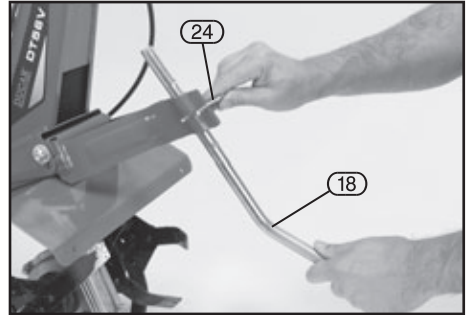

FIG.5
8.3 ATTACHING THE DRAG BAR - FIG. 5